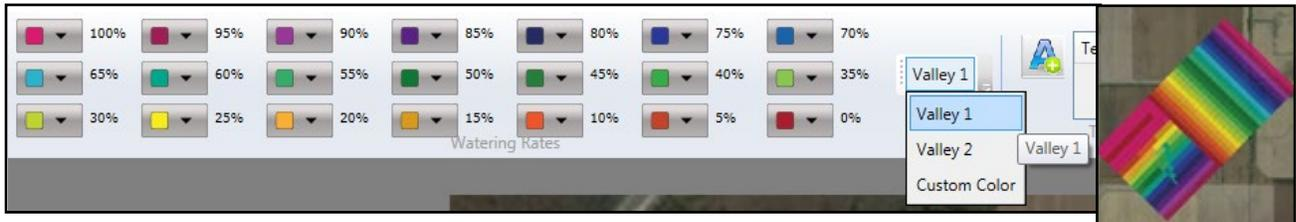

Figure 19-1
The Watering Rate buttons are used with any of the Drawing Tools buttons to describe the amount of water to be applied to sectors. The color-coded buttons range in 5 percent increments from 0 to 100 percent. This is the percent of application depth. See Figure 19-1.
As you may have noticed in Figure 19-1 there is an open drop down menu that can be used to select 3 possible Watering Rate Color pallets.
- (1) **Valley 1** (Figure 19-1) which is based off of a gradient system similar to that of a soil map.